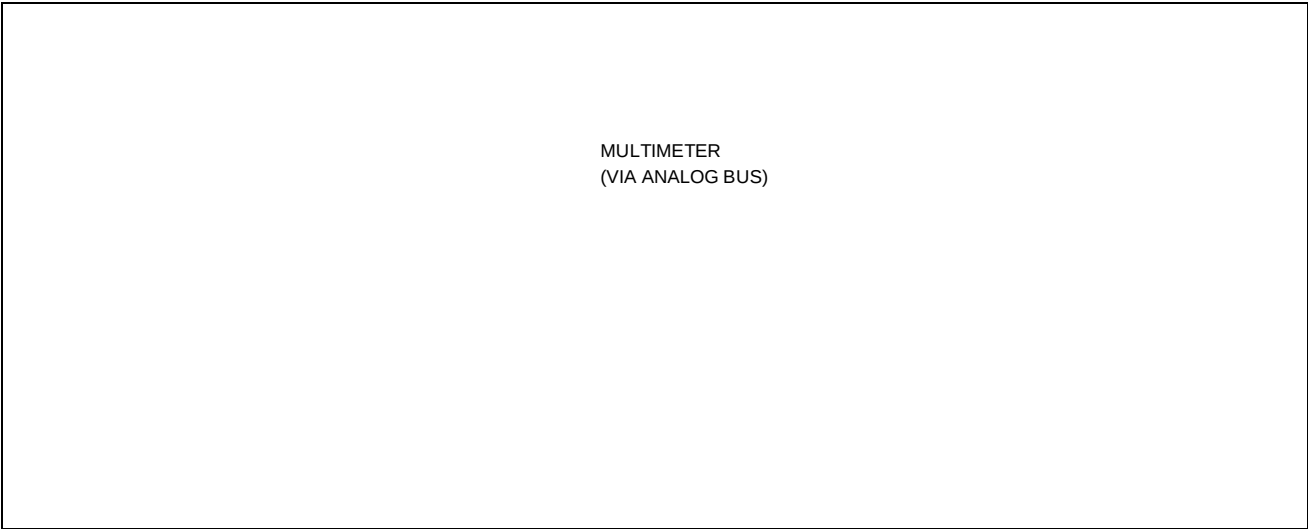

Figure 4-6. The Chevron Bridge
When measuring strain with ¼ and ½ bridge arrangements, the strain gage accessories use a variation of the Wheatstone Bridge known as the Chevron Bridge (Figure 4-6). The ¼ bridge and ½ bridge arrangements still complete the Wheatstone Bridge; however, the Chevron Bridge enables the bridge excitation voltage (VS) and the precision internal half bridge resistors (R1/R2) of the bridge completion circuitry to be shared among all channels.